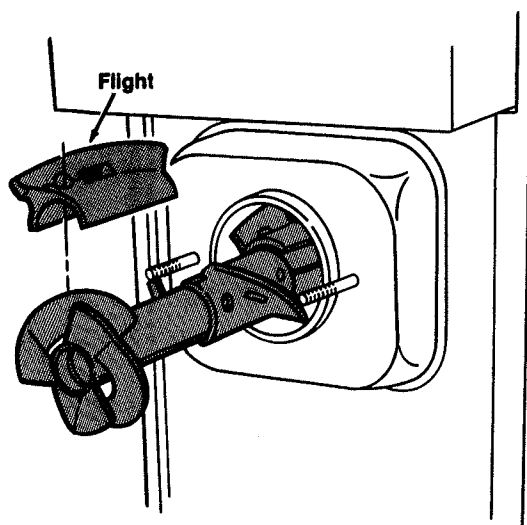

Figure 27. Auger Removal
- D. Remove auger by placing fingers behind the auger impeller and pulling auger straight out. (See Fig. 27.) As the auger is being pulled out, **carefully** remove each plastic flight.